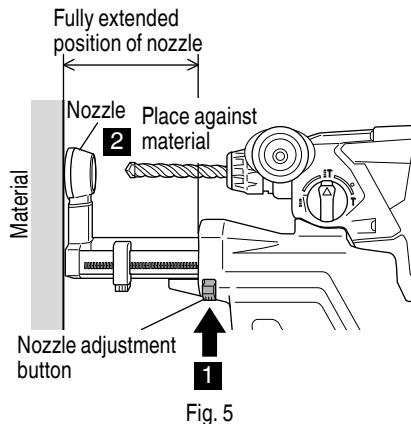

Fig. 5
## 2. Adjusting the nozzle position (Fig. 5, 6, 7)
- (1) Press the nozzle position adjustment button and ensure that the nozzle is in the fully extended position. (Fig. 5)
- (2) While holding the tool in a way so that the switch does not get pressed, place the nozzle against the material to be drilled. (Fig. 5)